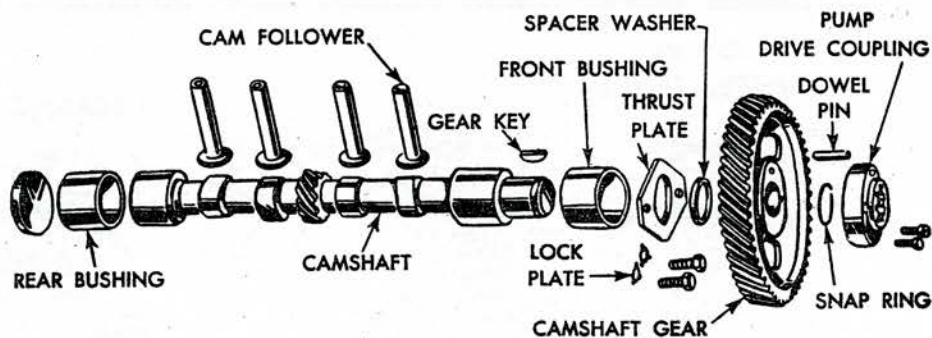

Fig. 13 Camshaft and related parts. Series M
**SERIES M**—Fig. 13. The camshaft is mounted on two bushings and end play is controlled by a thrust plate and spacer washer behind the camshaft gear.